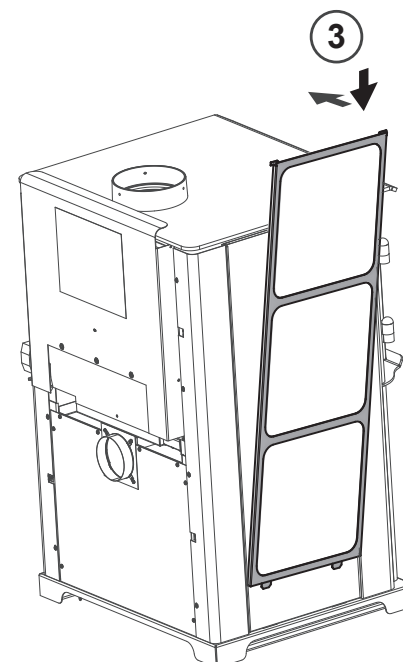

Figure 17.5
4. Reattach tile frame (**Figure 17.5**).